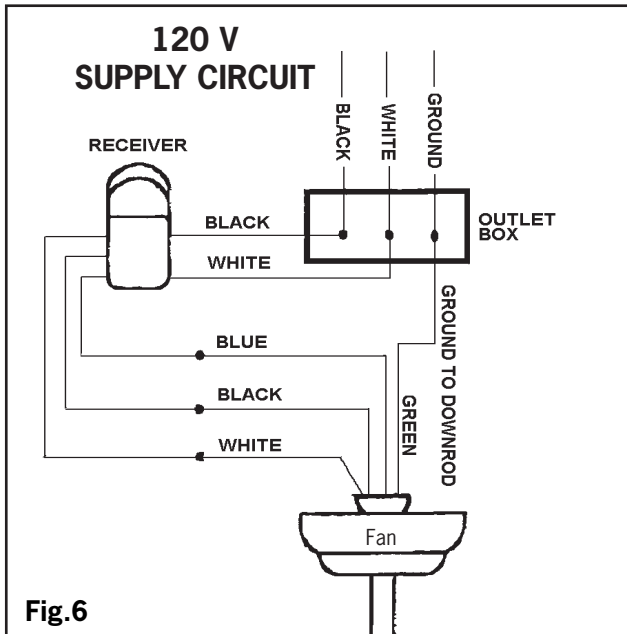

Fig.6
**B** Make the following wire connections to the receiver unit (see fig. 6) using the wire nuts supplied.